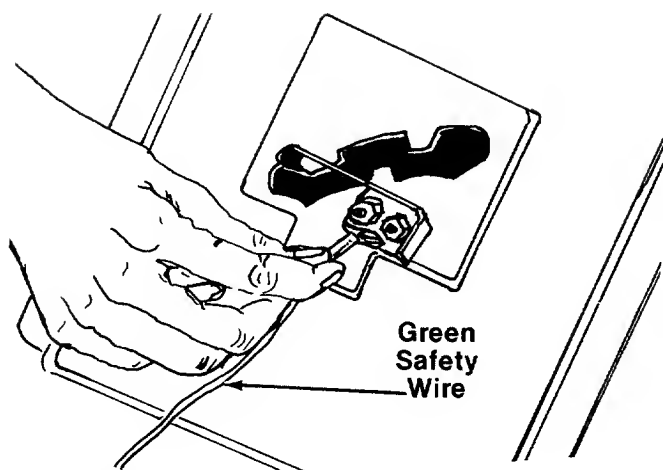

FIGURE 6.
3. Lift the transmission cover. Unplug the green safety wire from beneath the transmission cover. See figure 6. Remove transmission cover.
13. Plug the green safety wire into the switch beneath the transmission cover. Refer to figure 6. Replace the transmission cover and gear shift knob.